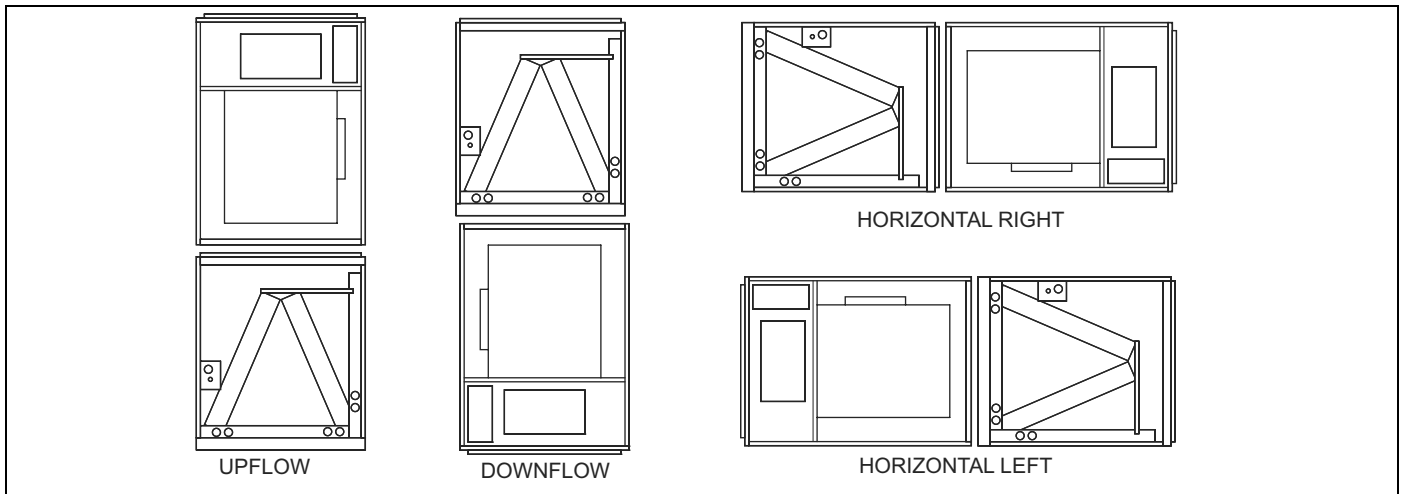

FIGURE 1: Typical Installation with MC Multi-Position Coils
If the unit is to be installed with an evaporator coil, refer to Figure 1 for unit positioning information.
7. Fasten duct flanges of coil to duct flanges of air handler with screws. See Figure 1.
8. Fasten duct flanges of coil to base of air handler with screws. See Figure 1.